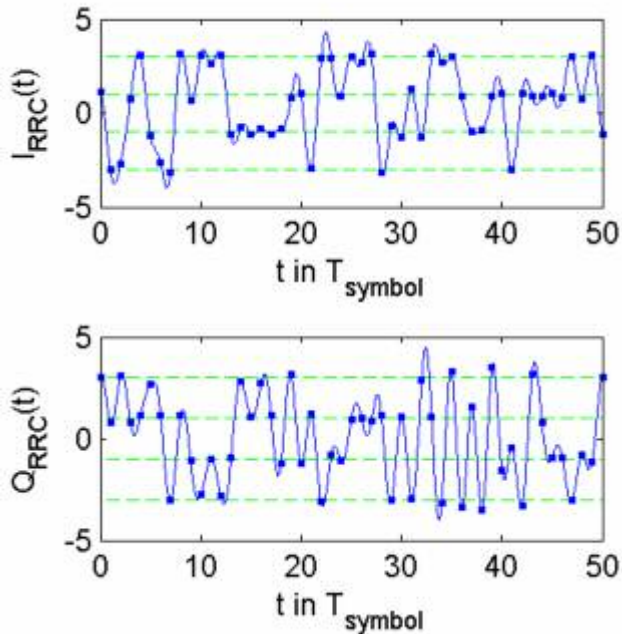

Fig. 2–47 Root raised cosine filtered dirac signals  $I_{RRC}(t)$  and  $Q_{RRC}(t)$
use of an equalizer is recommendable. Fig. 2–47 shows the signals  $I_{RRC}(t)$  and  $Q_{RRC}(t)$  that result from filtering  $I_{dirac}(t)$  and  $Q_{dirac}(t)$  with the root raised cosine filter **RRC**.
We notice that the symbol instants (highlighted with squares) are not on the horizontal lines (possible symbol levels) anymore. This is due to the inter–symbol interference introduced by the root raised cosine TX filter. Contrary to the signal filtered with two root raised cosine filters (TX and RX) the one filtered with a single root raised cosine filter (TX) does not satisfy the condition for zero inter–symbol interference. Fig. 2–48 shows the signal obtained by filtering the dirac signals with two root raised cosine filters. The convolution of two root raised cosine filters is also called raised cosine filter and it results in an overall inter–symbol interference free system. We observe that all symbol instants (highlighted with squares) of  $I_{RC}(t)$  and  $Q_{RC}(t)$  have exactly the same levels as the signals  $I_{dirac}(t)$  and  $Q_{dirac}(t)$  in Fig. 2–45. Please note that this is only true for the signals  $I_{RC}(t)$  and  $Q_{RC}(t)$  if there is no noise present in the receiver. In the case of noise points will turn into clouds, that is what can be seen in the Constellation Diagram measurement \(modulation analysis\).